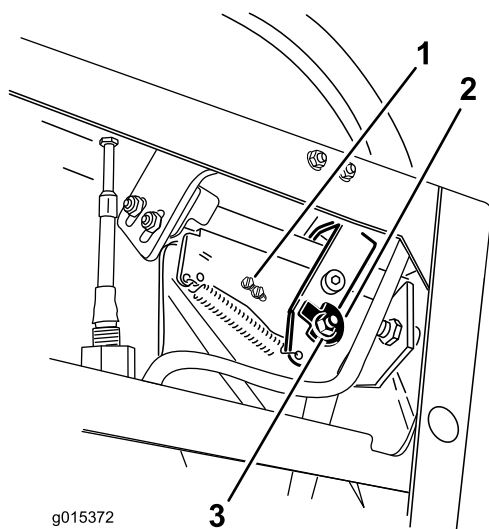
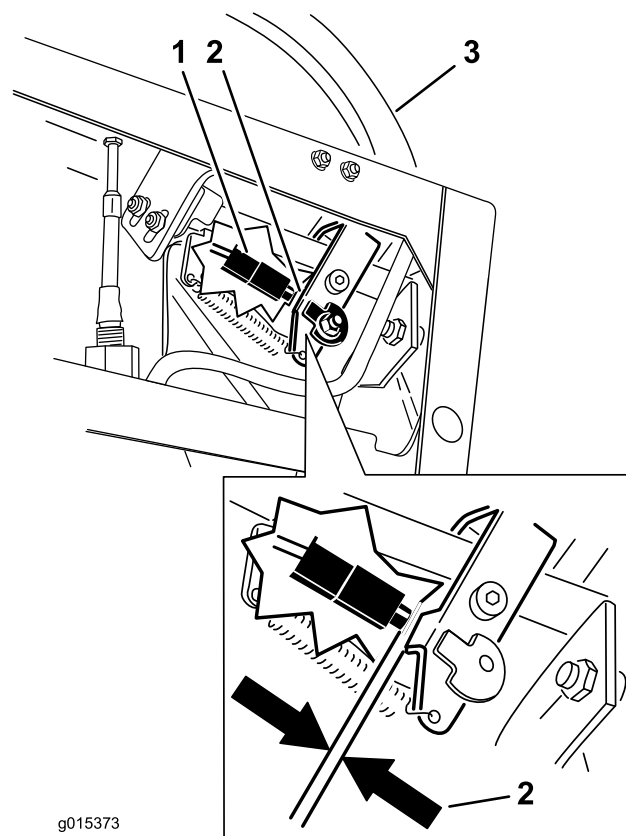

Figure 76
Figure 77
7. Loosen the nut and bolt holding the cam (Figure 76).
10. Check the gap between the control lever and switch as shown in Figure 77. The gap needs to be an 1/8 inch (3mm) with the right motion control lever in the neutral, unlocked position.
11. If needed, loosen the screws holding the switch and adjust the switch (Figure 76 and Figure 77).